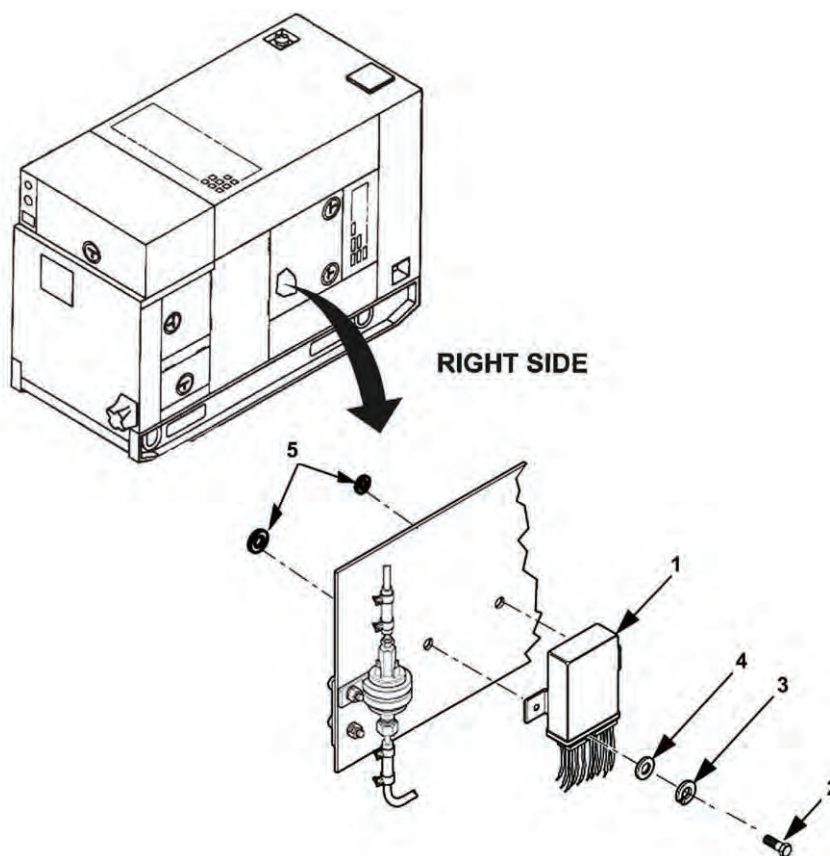

Figure 1. Control Unit Maintenance.
3. Remove two screws (Figure 1, Item 2), lockwashers (3), flat washers (4), and control unit (1). Discard lockwashers (3).
1. Install control unit (Figure 1, Item 1), securing with screws (2), new lockwashers (3), and flat washers (4).
2. Reconnect wiring harness to control unit (1).